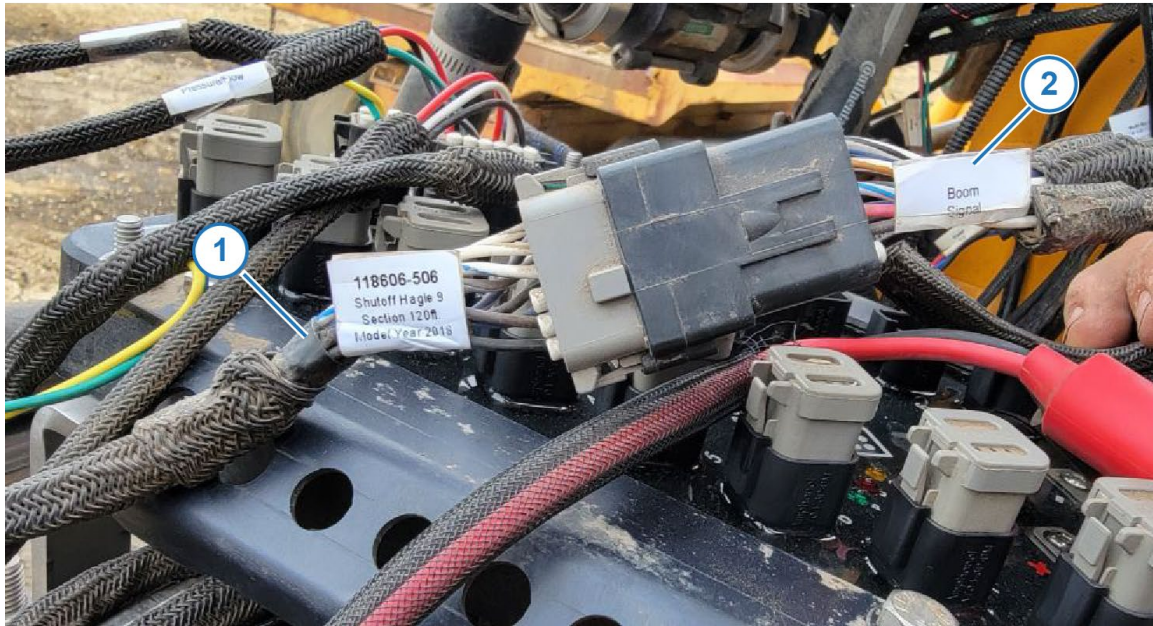

Figure 5 — 9-Section Shut-off Harness
5. *Figure 5:* Connect 9-Section Shut-off Harness P/N 118606-506 (1) to Boom Switch and Shut-off Adapter Chassis Harness connector (2).